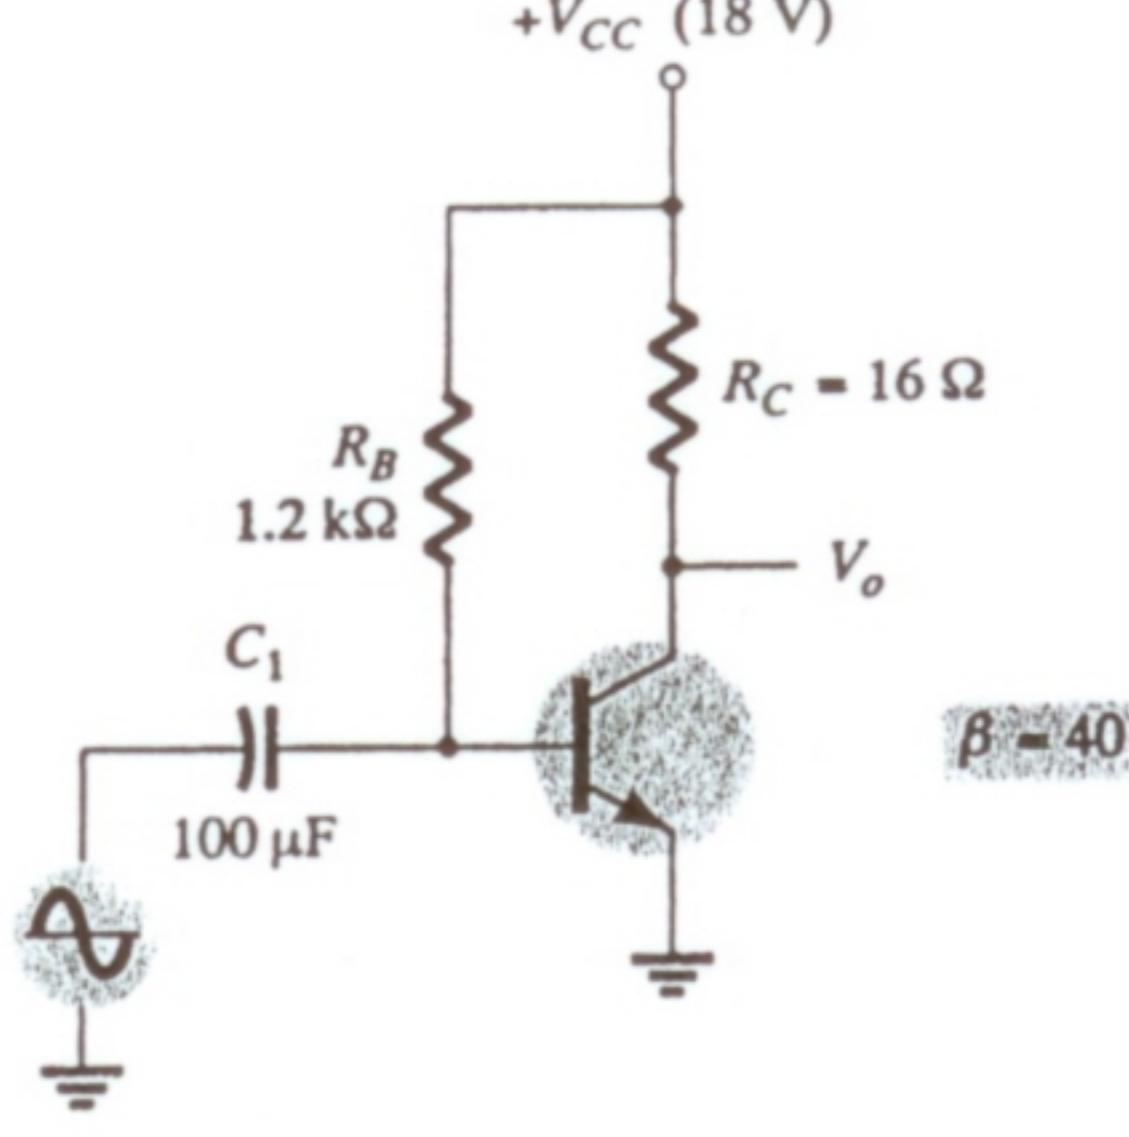

FIG. 12.35
1. Calculate the input and output power for the circuit of Fig. 12.35. The input signal results in a base current of 5 mA rms.
2. Calculate the input power dissipated by the circuit of Fig. 12.35 if R_B is changed to $1.5 \text{ k}\Omega$.
3. What maximum output power can be delivered by the circuit of Fig. 12.35 if R_B is changed to $1.5 \text{ k}\Omega$?
4. If the circuit of Fig. 12.35 is biased at its center voltage and center collector operating point, what is the input power for a maximum output power of 1.5 W?
- *26. Use Design Center to draw the schematic of Fig. 12.35 with $V_i = 9.1 \text{ mV}$.